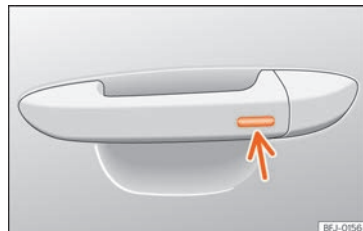

Fig. 109 Door handle: sensor surface.
• Press and hold the locking sensor surface »» Fig. 109 (arrow) on the door handle to close the sunroof. If you release the sensor surface, the closing movement stops.